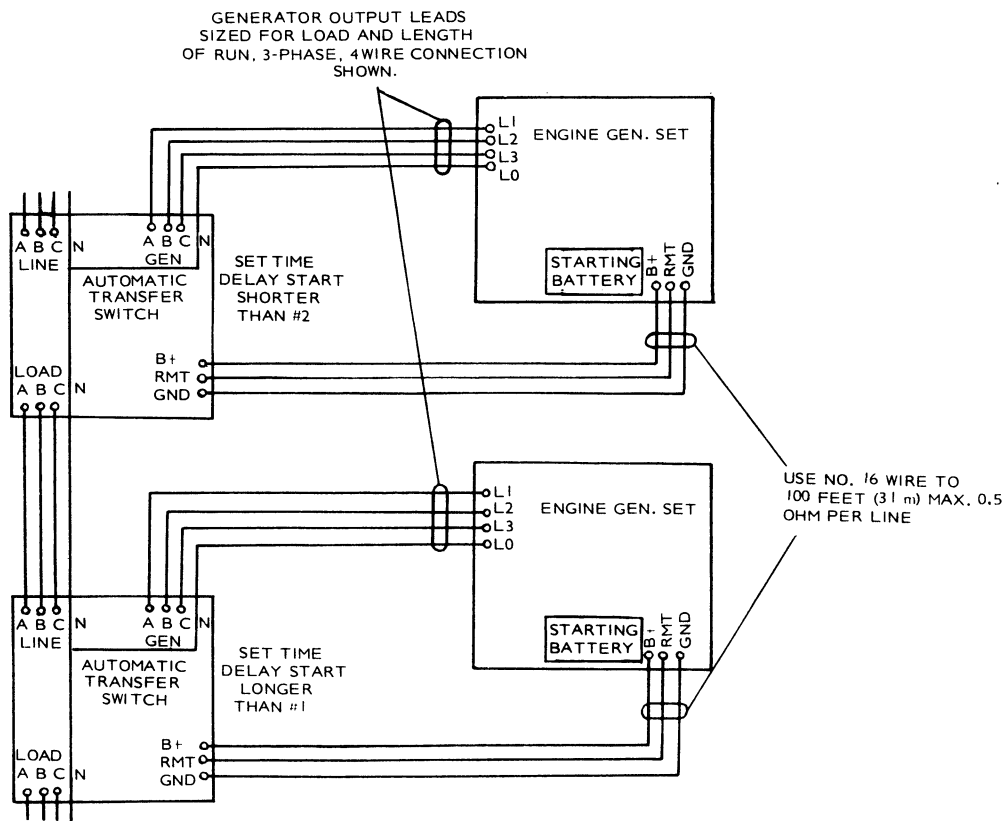

FIGURE 9. STANDBY TO STANDBY INSTALLATION
5. Two generator sets act as standby, one to the other, when an application requires absolute reliability of emergency power (Figure 9). Use number 16 wire for the DC engine control leads up to 100 feet or 31 metres (maximum of 0.5 ohm per line).
Set the start time delay longer on automatic transfer switch 2 as noted in Figure 9. See the *ADJUSTMENTS* section for changing the time delay setting.